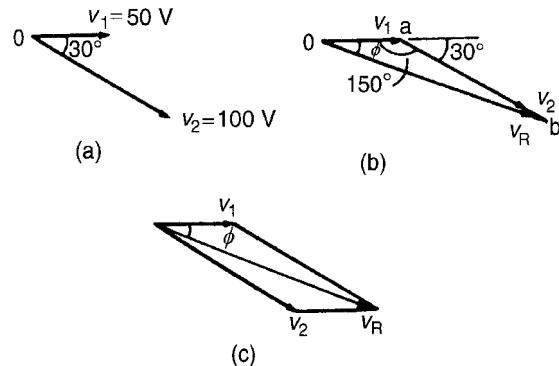

Figure 14.11
Phasors are usually drawn at the instant when time $t = 0$. Thus v_1 is drawn horizontally 50 units long and v_2 is drawn 100 units long lagging v_1 by $\pi/6$ rads, i.e. 30° . This is shown in Fig. 14.11(a) where 0 is the point of rotation of the phasors.
- Draw v_1 horizontal 50 units long, i.e. oa of Fig. 14.11(b)
- Join v_2 to the end of v_1 at the appropriate angle, i.e. ab of Fig. 14.11(b)
Alternatively, when two phasors are being added the resultant is always the diagonal of the parallelogram, as shown in Fig. 14.11(c).
A more accurate solution is obtained by calculation, using the cosine and sine rules. Using the cosine rule on triangle 0ab of Fig. 14.11(b) gives: